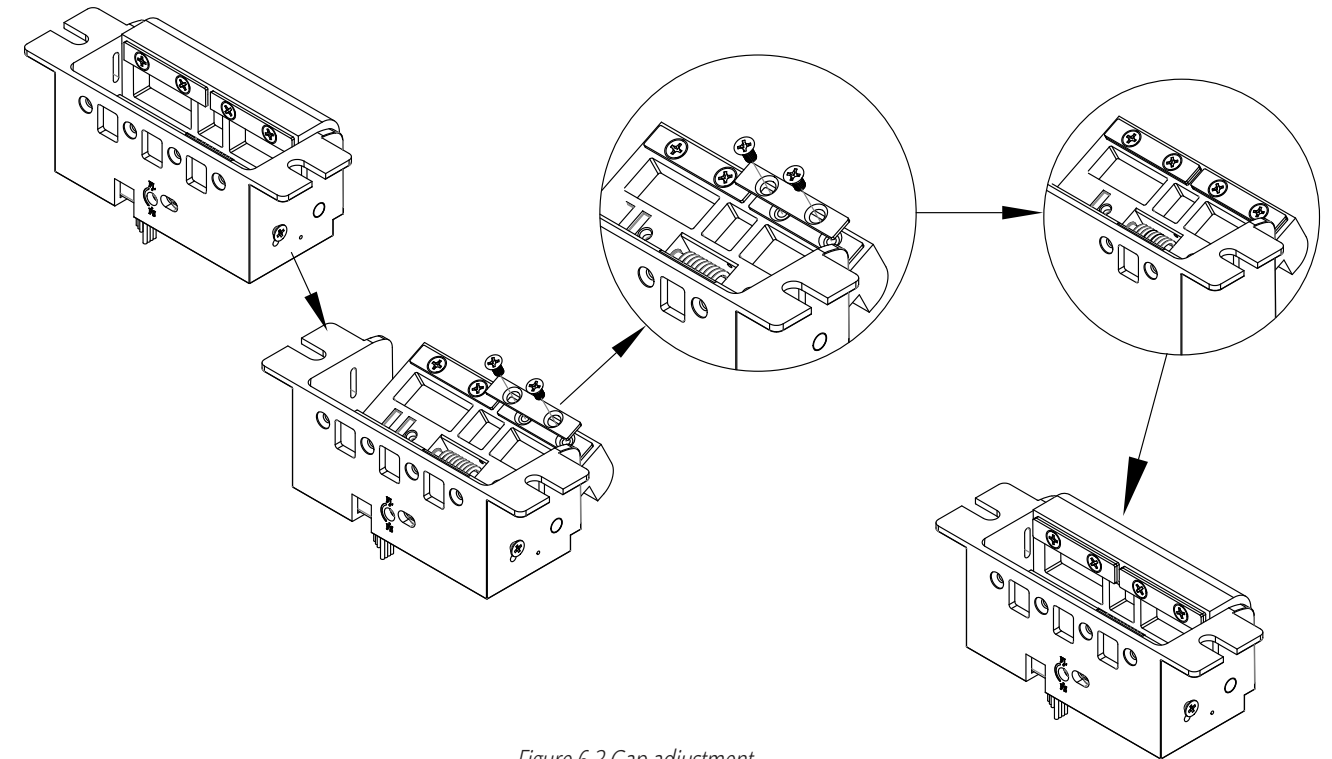

Figure 6.3 Gap adjustment
1. First loosen and remove the two set screws that secure the keeper shims (see Figure 6.3).